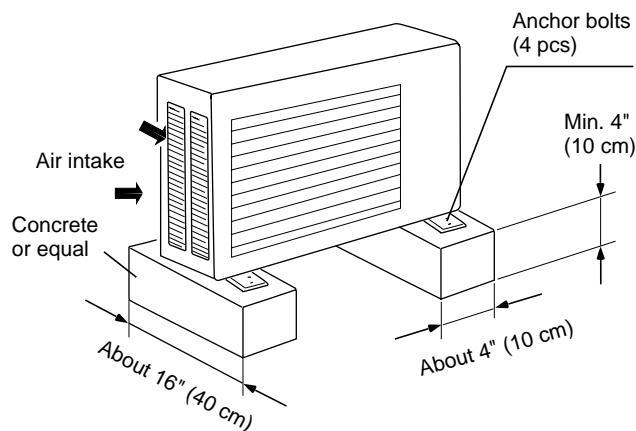

Fig. 5b
- provide a solid base (level concrete pad, concrete block, 4 in. × 16 in. (10 × 40 cm) beams or equal), a minimum of 4 in. (10 cm) above ground level to reduce humidity and protect the unit against possible water damage and decreased service life (Fig. 5b).